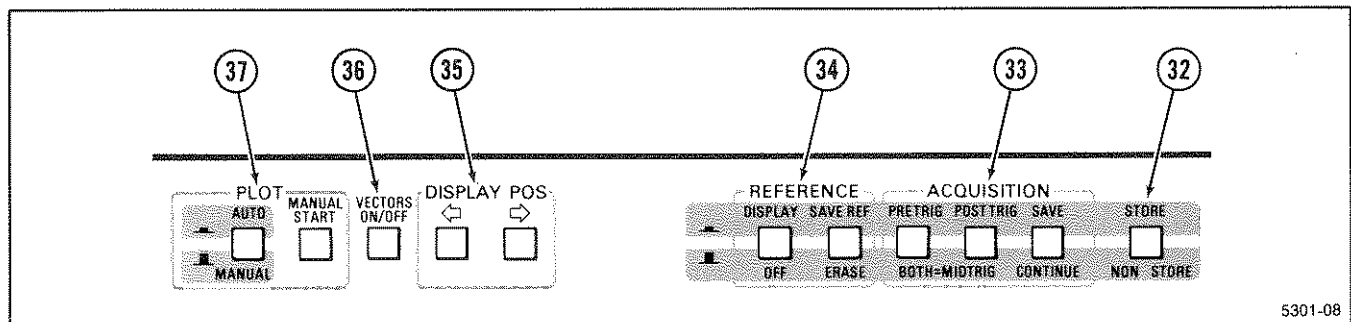

Figure 3-5. Storage controls.
See Figure 3-5 for the location of items 32 through 37.